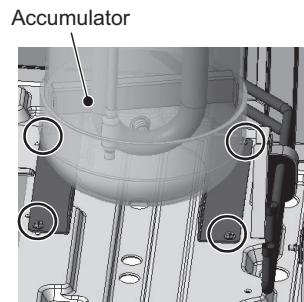

Figure 6
- (7) Remove the accumulator by unscrewing the four screws at the base legs. (See Figure 6.)